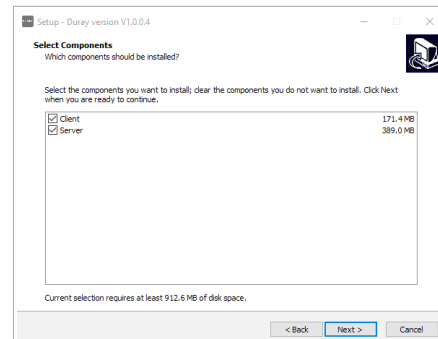

Figure 6
d) Select components. The user selects the corresponding component as needed, and then click the “Next” button, as shown in Figure 6: